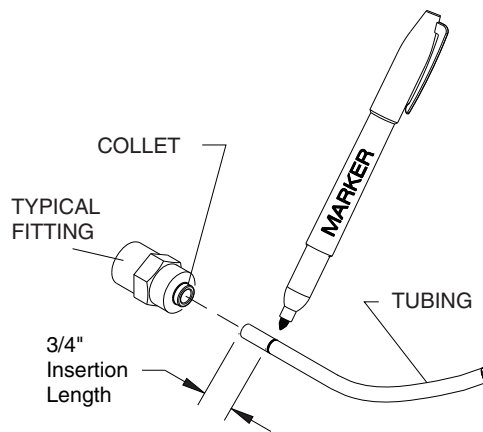

Figure 5-1. Tubing Installation
Note Figures 5-1 and 5-2 will be used at the connection to the atmospheric drain. s
2. Mark an insertion length of 11/16" from end of tube (Figure 5-1).